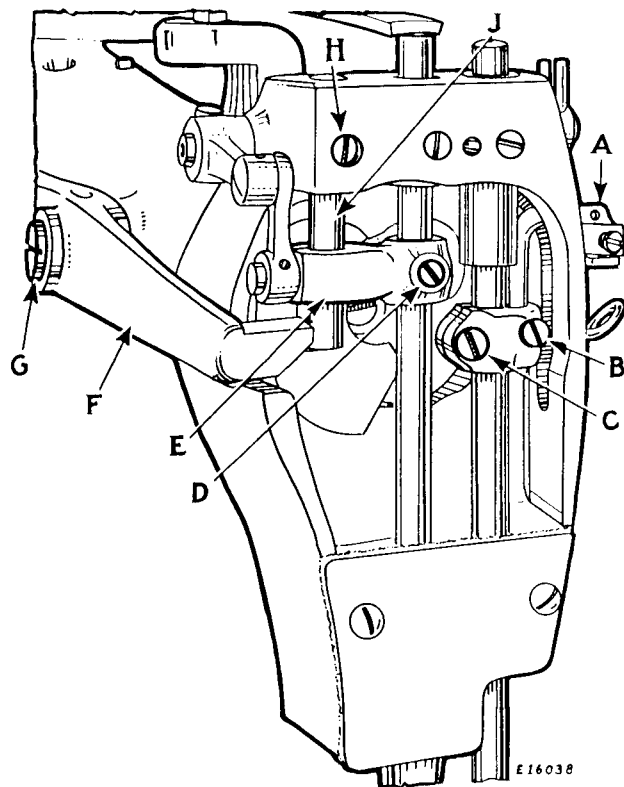

Fig. 10.
When the looper is in this position, the eye of the needle should be about $\frac{1}{8}$ inch below the point of the looper so that the eye of the needle and eye of the looper will be in perfect alignment when they pass each other on the loop-taking stroke. In case the needle bar is not set at the correct height, loosen the screw (C, Fig. 10) in the needle bar connecting stud and move the needle bar up or down, as required, then securely tighten the screw (C).
Remove the face plate and needle, and take out the needle screw from the needle bar. Loosen set screw (B, Fig. 10, page 18)
and remove the thread take-up (A, Fig. 10). Loosen screw (C, Fig. 10) and remove the needle bar from the top of the machine.
Remove the presser foot and presser foot screw, then loosen screw (D, Fig. 10) and take out the presser bar from the top of the machine. Loosen screw (H, Fig. 10) and remove presser bar
guide (J, Fig. 10), and presser bar lifting bracket (E, Fig. 10). Take out the needle bar connecting link. Take out screw (G, Fig. 10) and remove foot lifting lever (F, Fig. 10).